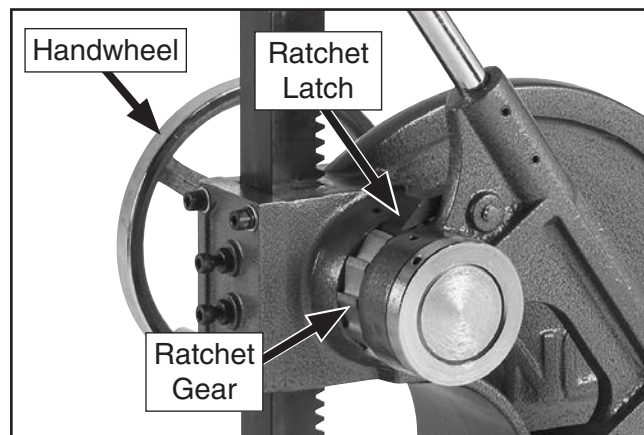

Figure 9. Ratchet latch components.
3. Use handle to move ram down a few times to check adjustment, then lift ratchet latch (see **Figure 9**) and raise ram upward using handwheel. If necessary, further adjust cap screws as described in **Step 2**.
1. To lower ram, engage ratchet latch with ratchet gear, as shown in **Figure 9**.